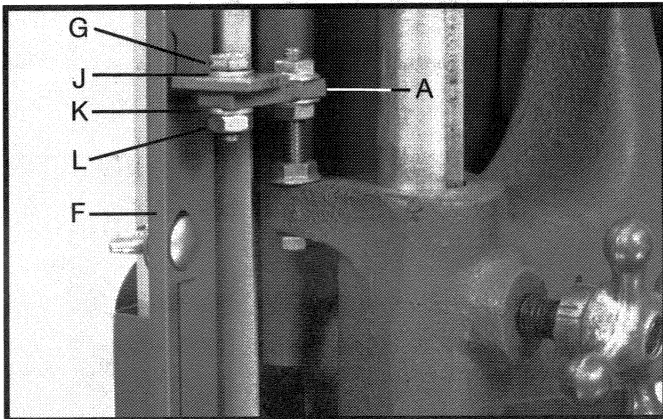

Fig. 16
3. Use the screw (G), Fig. 16, washer (J), lockwasher (K), and hex nut (L) to attach the blade guard assembly (F) to the bracket (A).